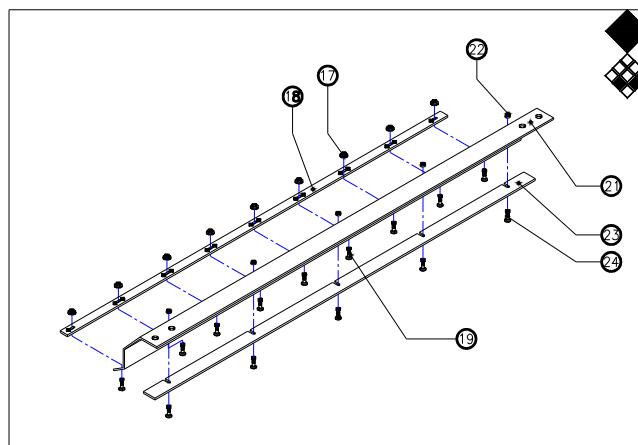

fig.1
1.1.1 Main Beam with scraper and clamp strip. (see fig.1)